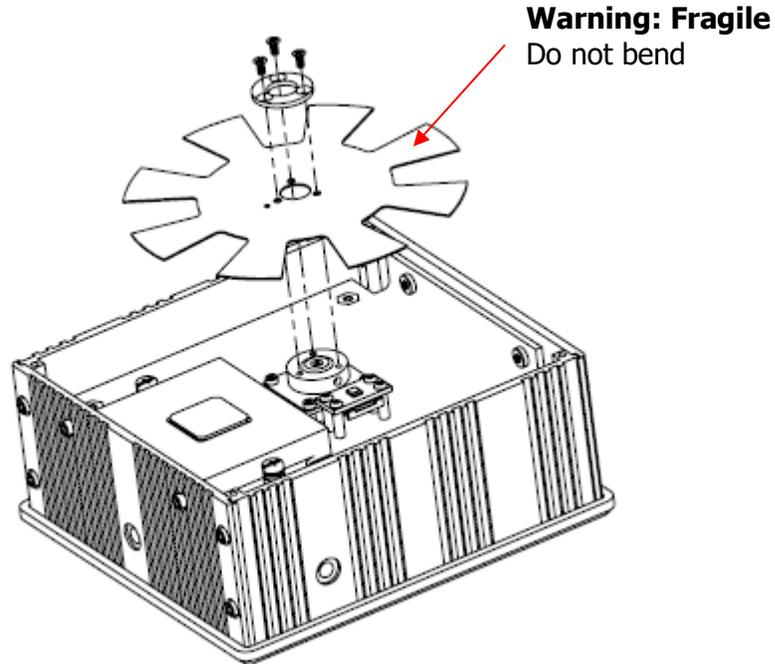

Figure B.2 Remove Chopper Blade
STEP 2. Remove the chopper blade by removing the three (3) screws as shown in Figure B.2. Be careful not to apply downward pressure to the screws when removing them as it could cause the chopper mount to slip out of alignment and potentially damage the window or encoder. Also be careful not to damage the chopper while removing it.